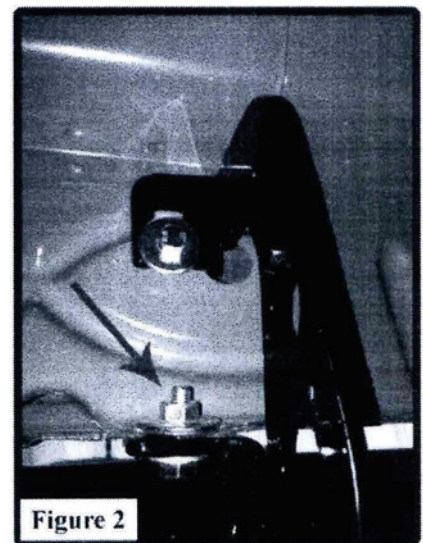

Figure 2
STEP 4: Align the steps with the mounting holes and starting from the front use 1 - M8-1.25 Bolt and 1 - Fender Washer for each mounting hole location and thread the bolts into the mounting holes. **NOTE:** Some vehicles require the use of an additional nut and washer for the lower portion of the mounting bracket as seen in Figure 2. The nuts and washers are supplied with the bolt kit.